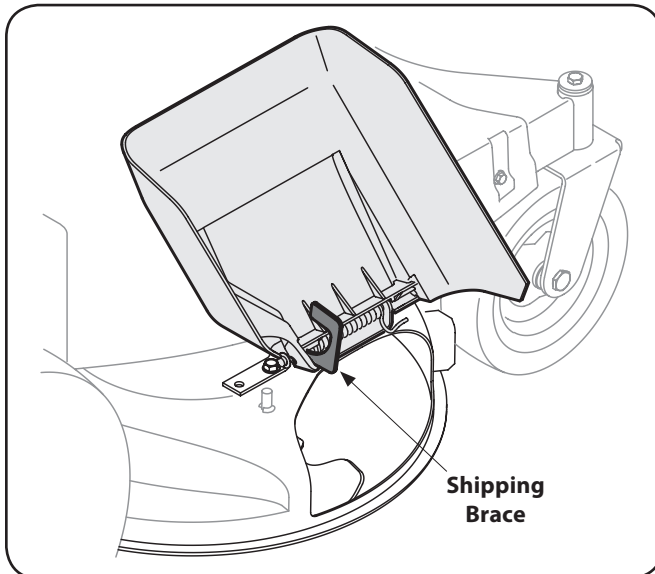

Figure 3-1
1. Locate the shipping brace, if present, found on the right side of the cutting deck. See Figure 3-1.